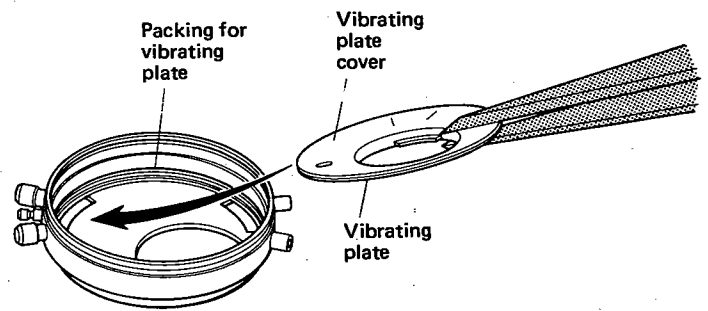

Fig. 5
- c. The assembly of the vibrating plate and the vibrating plate cover is picked up with a tweezers and then inserted under the push-button. (Fig. 5)